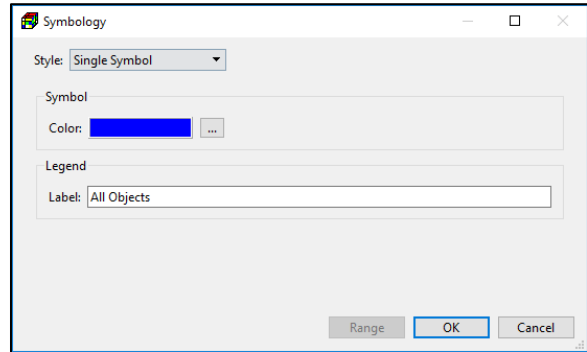

Figure 10. The Symbology dialog box - Single Symbol
The Symbology dialog box (Figure 10) allows modification of how attribute values are presented with spatial features in a shapefile. To open this dialog box, click the  button in the **Colors** field within the **Settings window** of the shapefile. Three color-mapping styles are available, selectable through the **Style** dropdown box:
1. Single Symbol (Figure 10):